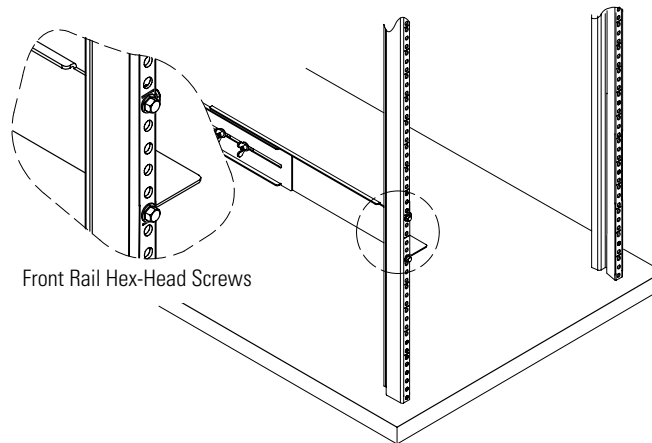

Figure 11. Securing the Front Rail
3. Secure the rail to the front of the rack with two hex-head screws (see Figure 11).